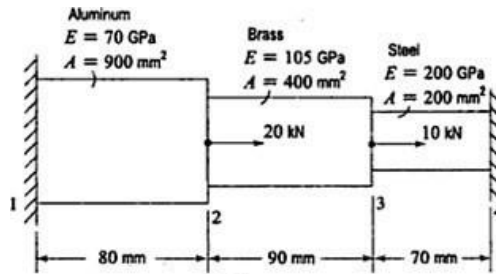

Figure 1
- c) For the three stepped bar shown in figure 1, determine the displacements at node 2 and 3 and the reactions at the supports. Also find the stresses in each section. (15)